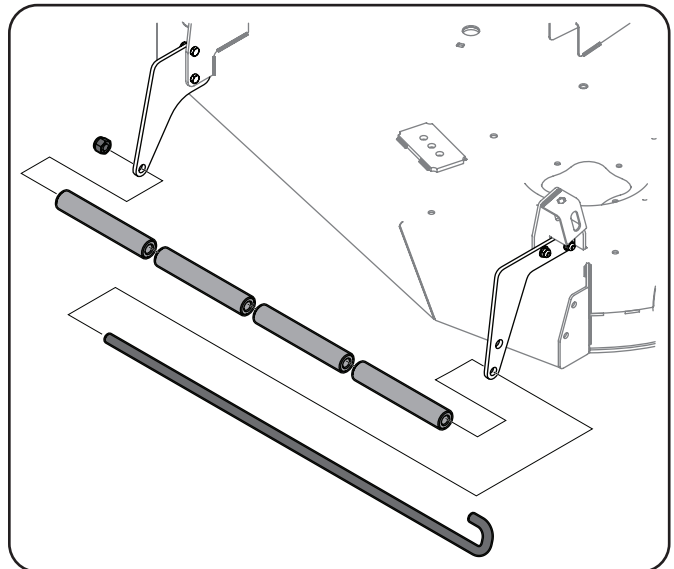

Figure 1-16
3. Align the four Rollers (#5) inside the brackets and slide the Roller Pin (#2) through the center of the rollers and into the mounting hole of the Right Roller Bracket (#7), ensuring that the J-hook end of the pin is secured in the bracket's mounting hole. See Figure 1-16.
4. Secure the end on the Roller Pin with a $\frac{1}{2}$ Lock Nut (#4). See Figure 1-16.